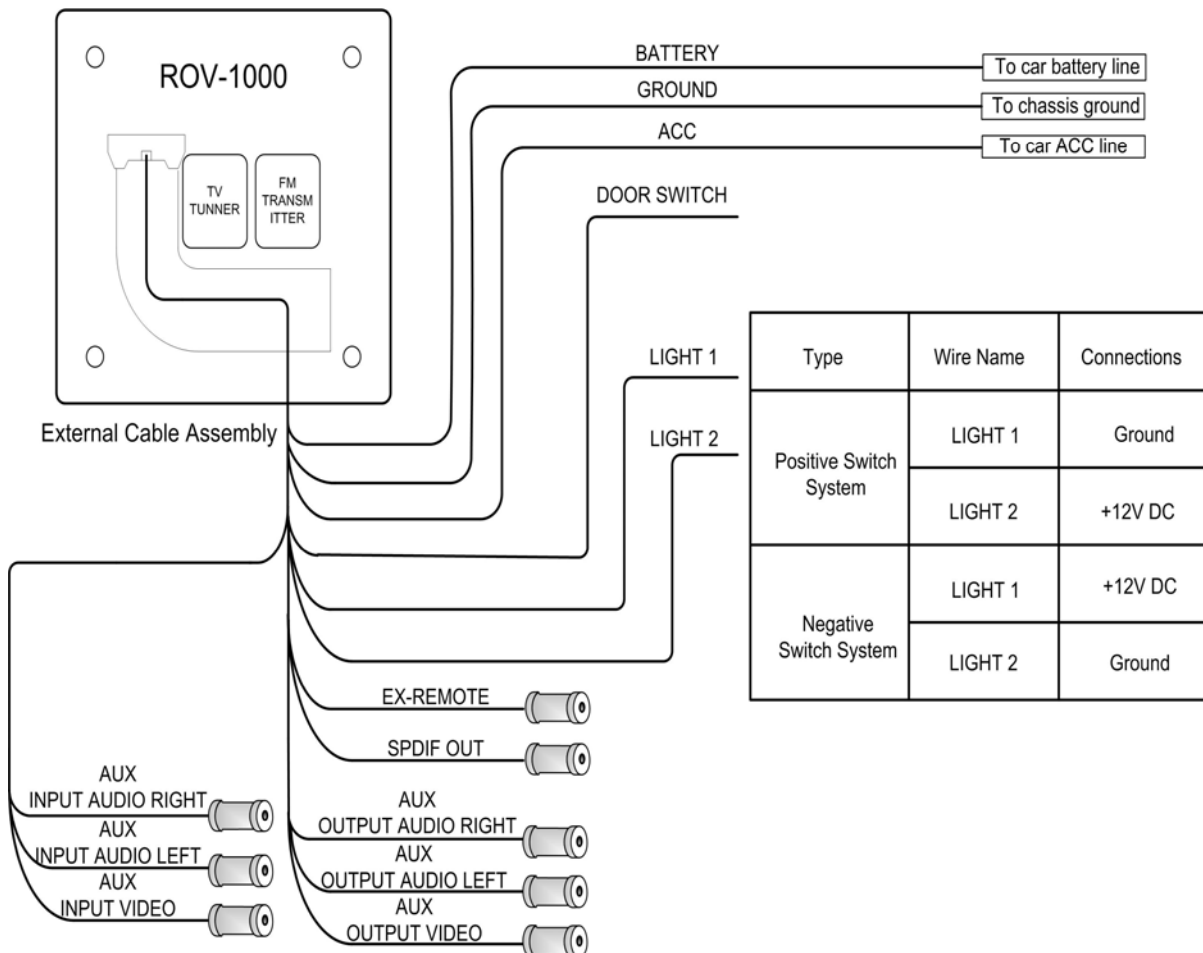

Figure 2
1. Connect the power cable and A/V components to the appropriate vehicle electrical connections. See Figure 2.